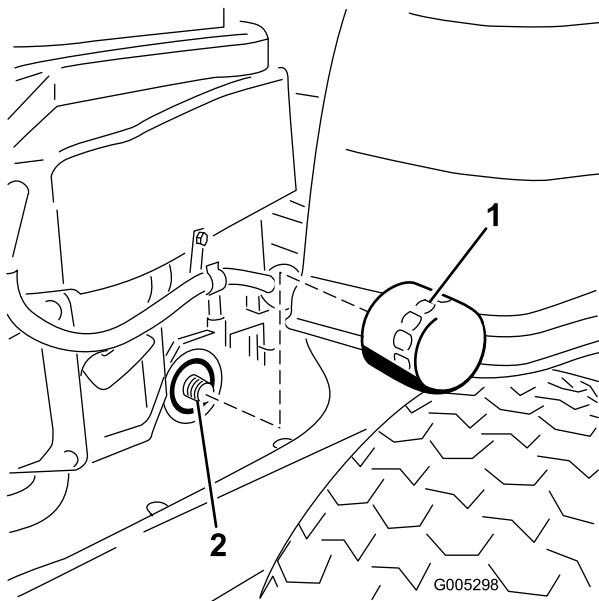

Figure 30
- Locate the oil filter on the right side of the engine. Remove the old filter and wipe off the filter adapter with a clean cloth (Figure 30).
11. Install the replacement oil filter to the adapter. Turn the oil filter clockwise until the rubber gasket contacts the pad, then tighten the filter an additional 3/4 to 1 turn (Figure 30). Wipe up any excess oil on the frame.